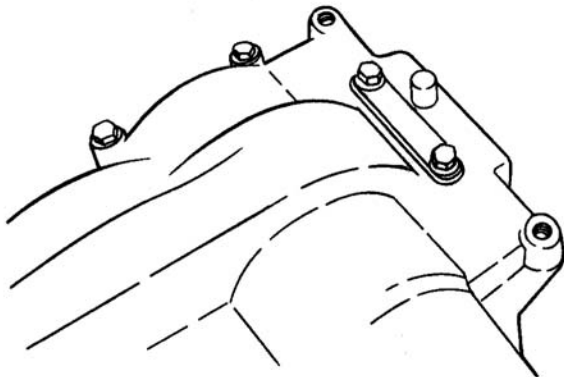

Figure 5-63. Installed Shim Plate and Cover
11. Install the shim plate and cover over detent screws. See Figure 5-63.